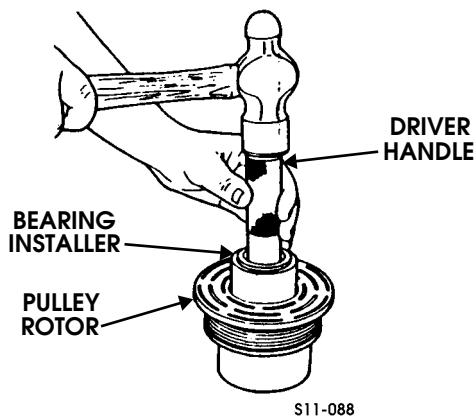

Figure 11-56: Bearing Installer
2. Align the new bearing squarely with the hub bore, and using puller and bearing installer with driver handle, drive the bearing pulley into the hub. The installer will apply force to the outer race of the bearing if used as shown (Figure 11-56).